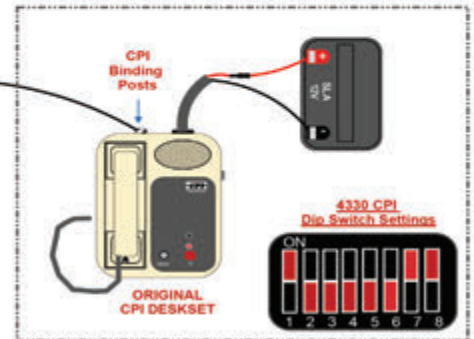

Figure 3: 4330
- Strip and attach the field wire in parallel to the binding post of the Original CPI remote desk set. (See Figure 3)
5. Deskset Switch Settings:(See Figure 3 and 4)